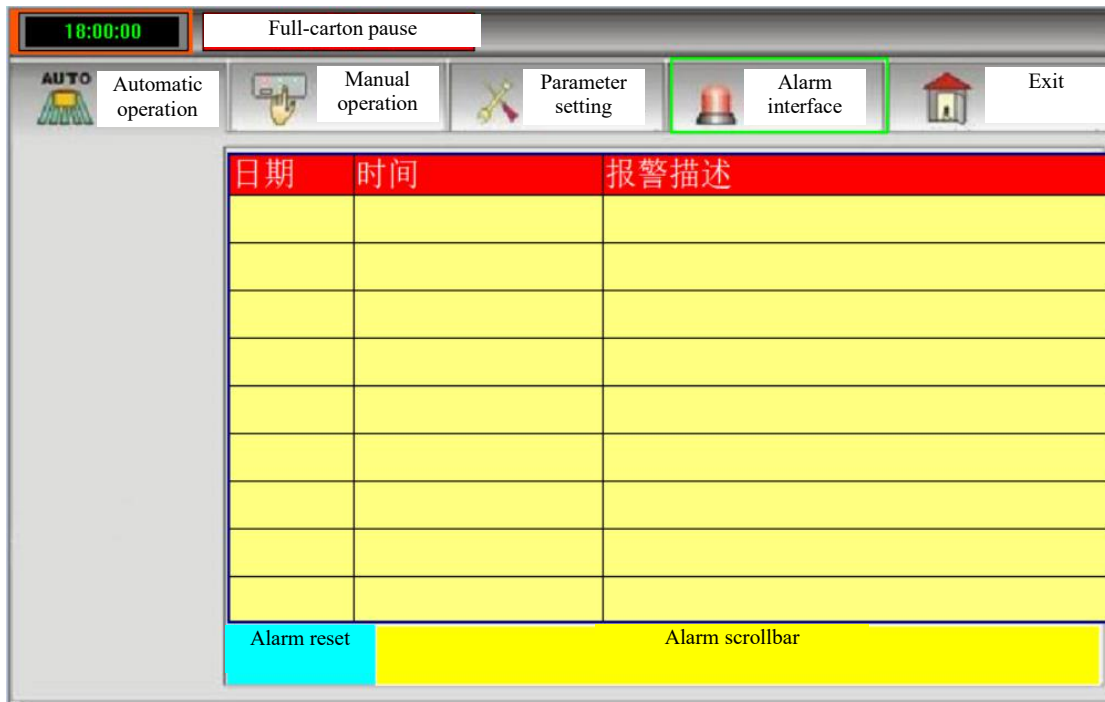

Figure 17
8) The alarm screen is as shown in Figure 17.